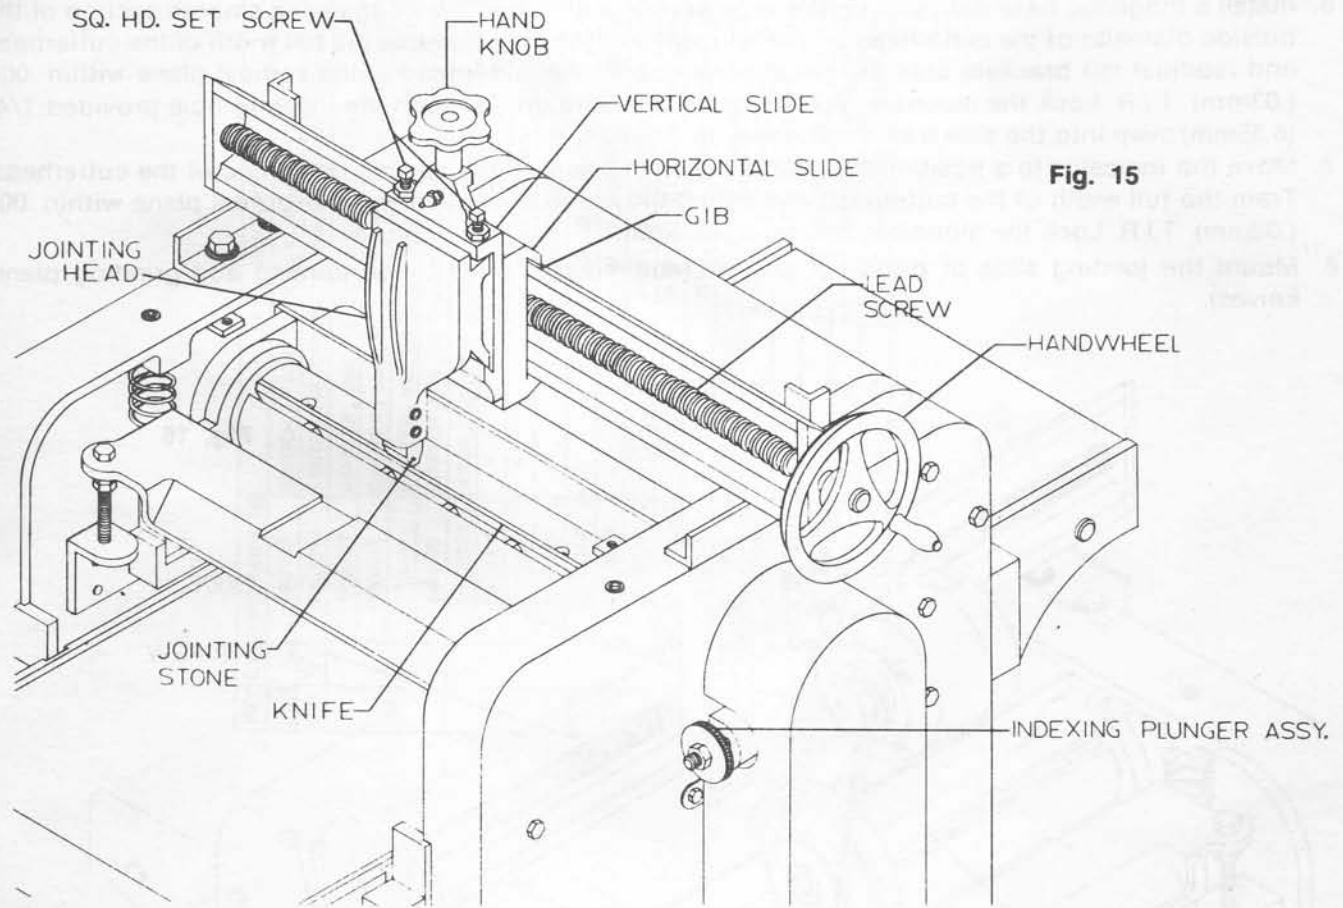

Fig. 15
2. Install and center the jointing head in the dovetail ways of the vertical slide. Lock in position with the setscrews provided (*Fig. 15*). Be sure the jointing stone clears the knives by lowering the vertical slide with the top mounted hand knob until it touches one knife at the high point of its arc. Raise the slide with two full turns of the hand knob. Check the vertical slide making sure that the gib is snug so that screw pressure is required to move the slide downward. Also check the horizontal slide to be sure the gib is snug but movement is smooth and easy. **Make sure the jointing stone's locked in its holder.**
4. Alternately lower the jointing head at the end of each traverse and traverse the full cutterhead width with jointing stone until a slight flat (shiny line) appears on all knives over their full length. The flat may be wider in some places than others and this is normal due to uneven wear. Turn the cutterhead motor off (*Fig. 15*).